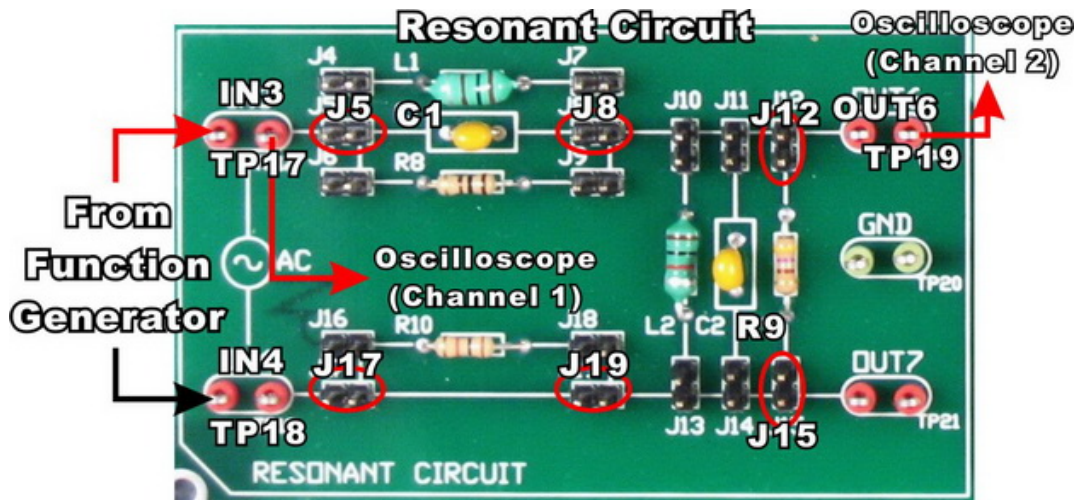

Figure 11 – RC High Pass Filter
1. Complete the connections for the resonant circuit as shown in Figure 11.